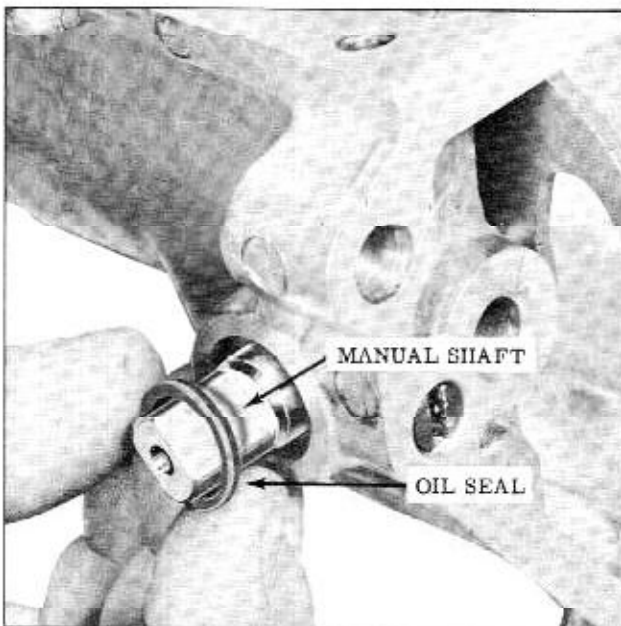

Fig. 3-80 Installing Oil Seal
8. If removed, install new manual shaft seal (grooved side toward retainer). (Fig. 3-80)